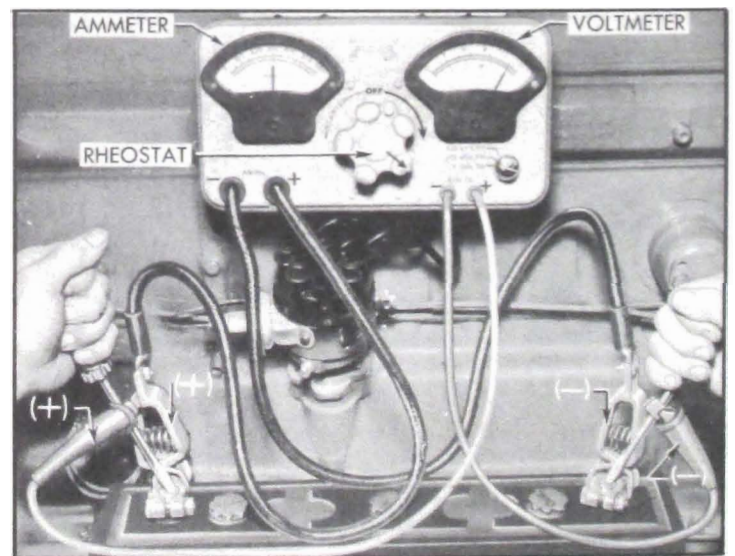

Figure 10-5—High Discharge Test with Voltmeter, Ammeter, and Rheostat
2. Connect ammeter positive (+) lead to battery positive (+) post, and negative (-) lead to one side of rheostat. Connect other side of rheostat to battery negative (-) post. In the instrument shown in figure 10-5 the ammeter and rheostat are connected in series inside the case. If battery is installed, connect ammeter and rheostat leads to battery cable terminals so that battery posts are not covered.